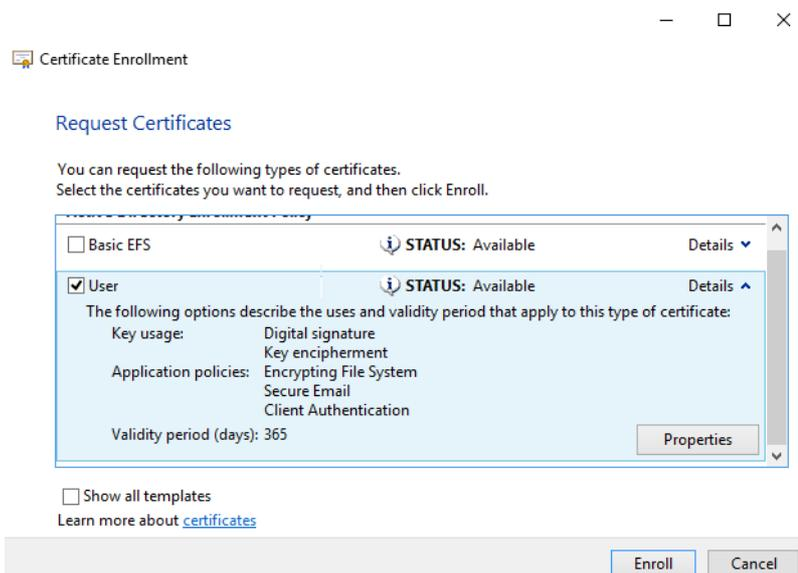

Figure 2-36. Requesting New Certificate
7. In the **Request Certificates** dialog, choose **User** certificate, which allows Secure Email, see Figure 2-36.